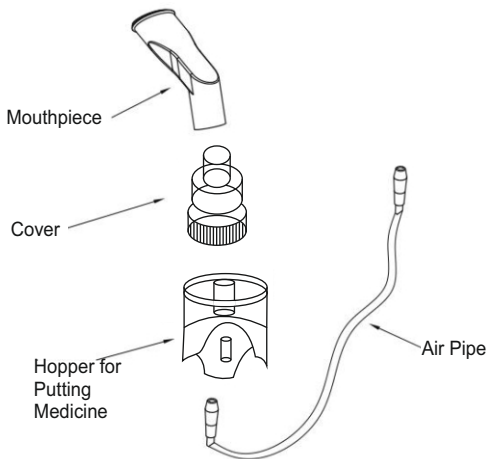

Figure 3
1. Open the cover (See Figure 3)